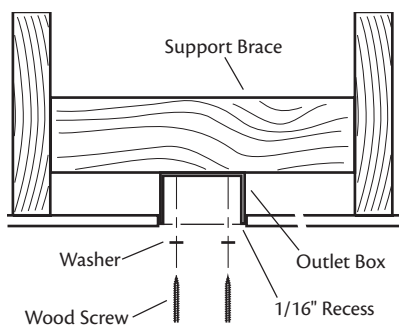

Figure 6 - Installing the outlet box
1. Attach a 2" x 4" support brace between two joists. The support brace must allow the bottom of the outlet box to be recessed a minimum of 1/16" into the ceiling. See Figure 6.
4. Attach the outlet box directly to the support brace or joist with two #8 x 1-1/2" wood screws and washers. The bottom of the outlet box must be recessed a minimum of 1/16" into the ceiling as shown in Figure 6.